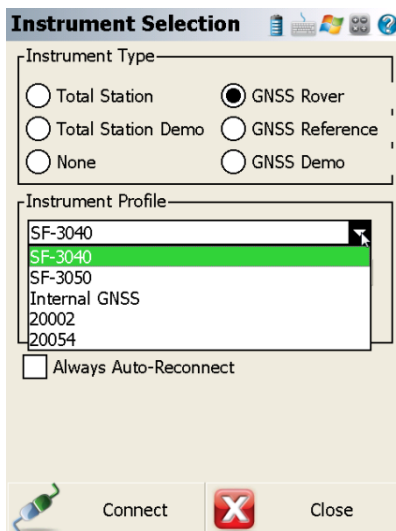

Figure 39: Instrument Selection
2. On the **Instrument Selection** dialog box (refer to Figure 39), select **GPS Rover**.
2. On the **Instrument Selection** dialog box (refer to Figure 39), select **GNSS Rover**.
7. On the **Instrument Selection** dialog (refer to Figure 39), select **GNSS Rover**.